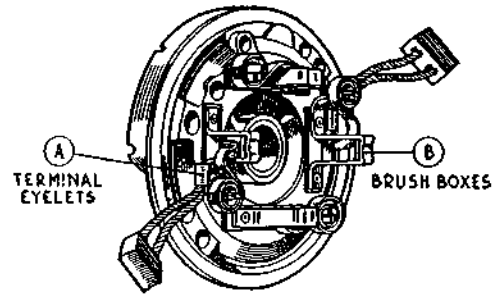
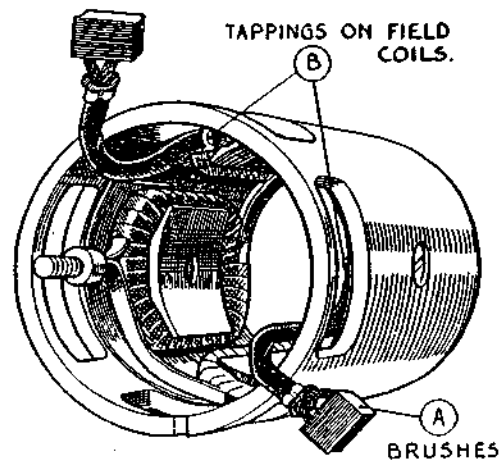

Fig. 5. Brush Connections.
Fig. 6. Brush Connections.
- (b) If the brushes are worn so that they do not bear properly on the commutator or the flexible connector is exposed on the running face they must be replaced. Two of the brushes are connected to terminal eyelets "A" (Fig. 5) attached to the brush boxes "B" on the commutator end bracket and two "A" (Fig. 6) are connected to tappings "B" on the field coils.